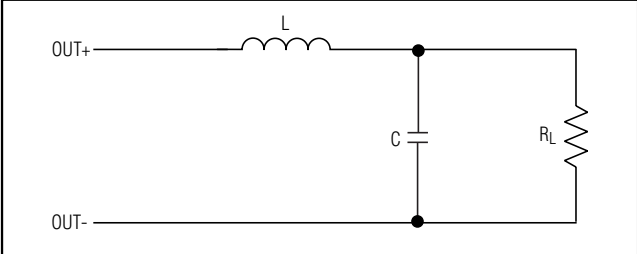

Figure 4a. Single-Ended 2-Pole Filter
**• Single Ended 2-Pole Filter (Figure 4a)**